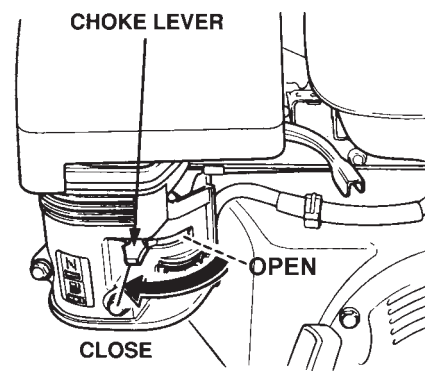

Figure 26. Choke Lever
3. Place the **Choke Lever** (Figure 26) in the "**CLOSED**" position.
- If the engine has started, slowly return the choke lever (Figure 26) to the **"OPEN"** position. If the engine has not started repeat steps 1 through 5.